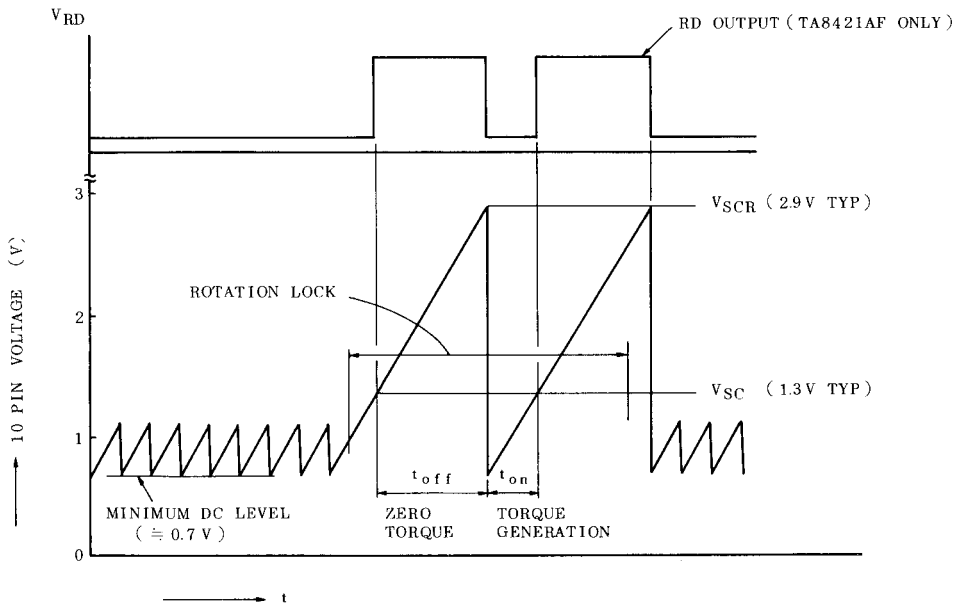

Fig. 1 Automatic Self Rotation Recovery Circuit Operation
Fig.1 shows (10) pin voltage and the operation of this functions are as follows.
RD output becomes low (Actually $V_{SAT(RD)}$ level of 0.3V TYP.) when the Motor in rotation state and generates t_{off} pulse when the rotation is locked (Refer to Fig. 1).